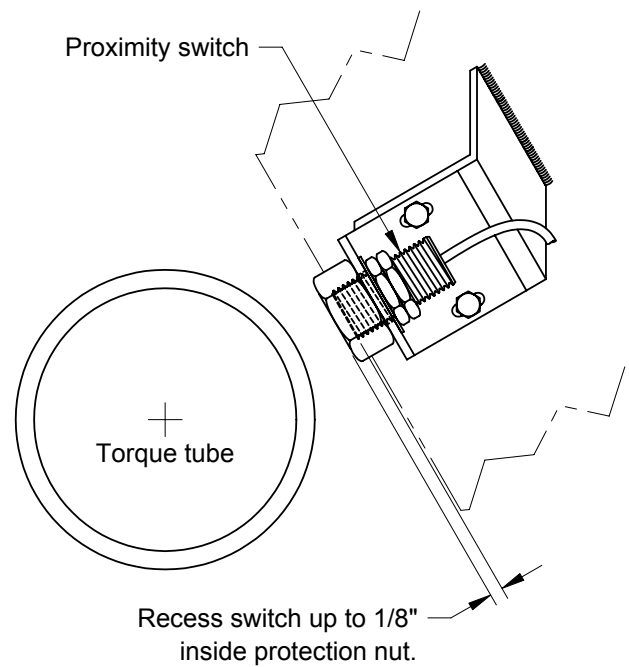

Figure 1-E
4. Weld bracket to the truck structure, and set 1" nut height off torque tube, see Figure 1-D.